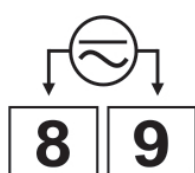

Figure 12 – 100~240 Vac/dc Model
- RTD (Pt100):** Figure 12 shows the connection mode for the 3-wire Pt100. You should use conductors of the same gauge and length to compensate for cable length. For 4-wire Pt100, you must leave one conductor disconnected at the controller. For 2-wire Pt100, use short-circuited terminals 1 and 2.